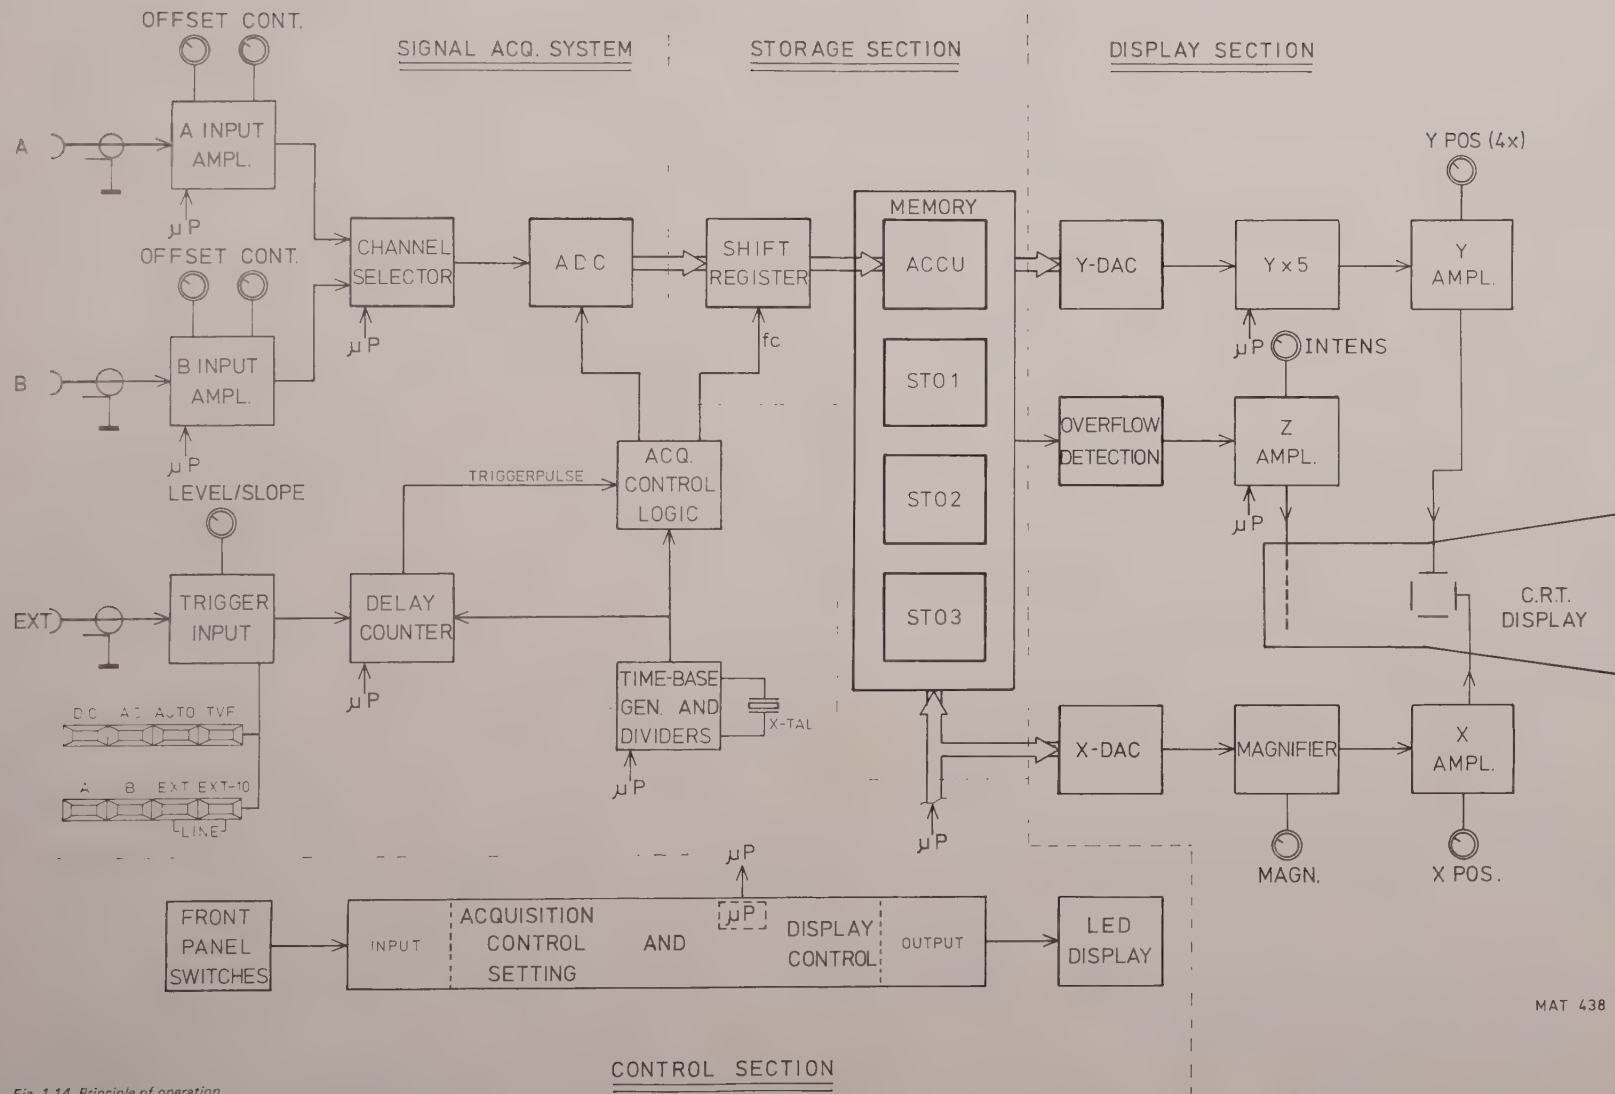

Fig. 1.14. Principle of operation
1.5 PRINCIPLES OF OPERATION (See Fig. 1.14.)